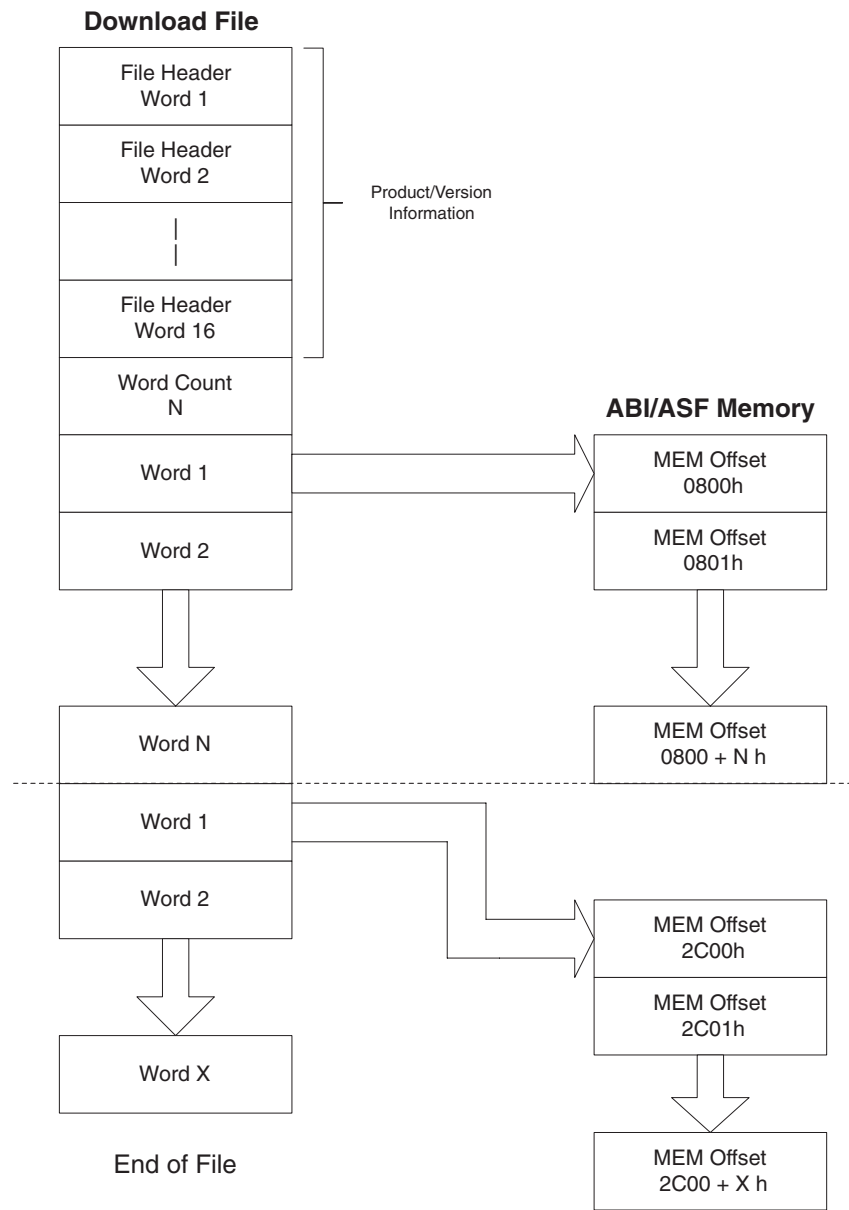

Figure 10.3.1: V6 Download File Format
For the host download, a V6 download file contains the firmware code which comes in ASCII format. The data in the download file has a 16-bit word structure. The first sixteen words make up the file header, containing product and version information. The seventeenth word in the file contains a word count value (N) for the first half of the data in the file. See Figure 10.3.1.